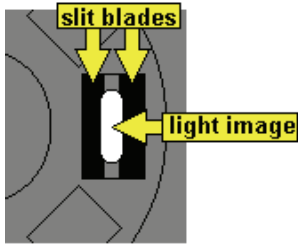

Figure 82 Aligning the light
12. Move the left fibre holder until the light is central on the slit, as shown in Figure 82.